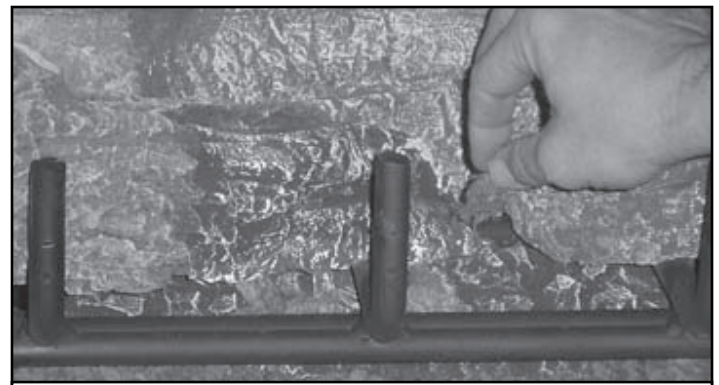

Figure 12.3 Placement of Rockwool
- Place rockwool the full length of the burner, but not packed against it. See Figure 12.3.